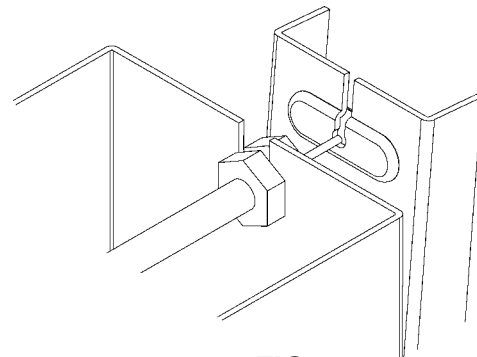

FIG. 6
See Fig. 6
1. Assemble the operating cable to the fountain bracket. (Fountain should be mounted to exterior wall) Create a loop in the cable and thread the free end of the cable through the wall into the freeze resistant box. The adjustment nuts should be in the middle of threaded area on the operating cable. See Figure 6